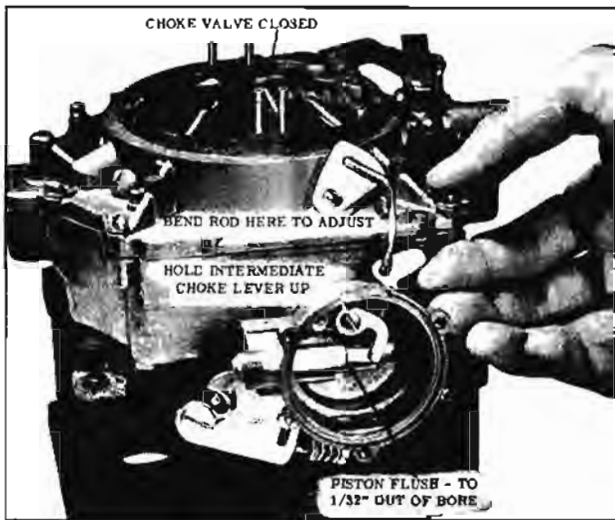

Fig. 9-186 Intermediate Choke Rod Adjustment
1. With the choke cover and baffle removed, position the fast idle screw on the high step of the fast idle cam. Raise the intermediate choke lever to its full up position, then push lightly on the end of choke piston to remove all lash in the linkage; check to see if the choke piston is flush to 1/32" out of the choke piston bore. (Fig. 9-186)